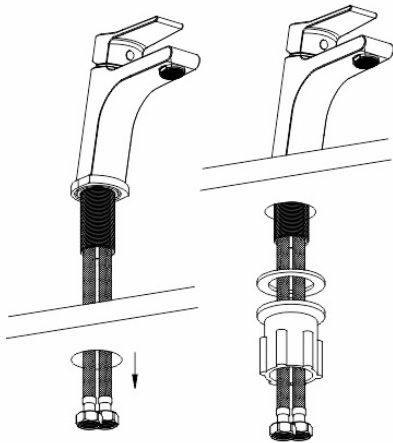
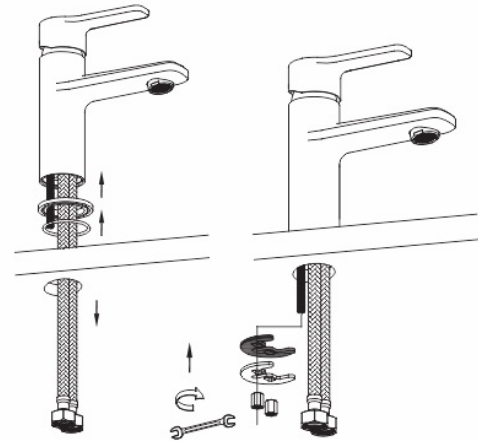

Figure 3
Figure 4
- Secure the faucet from the bottom with a rubber gasket and nut (Figure 3) or gasketed bracket (Figure 4).